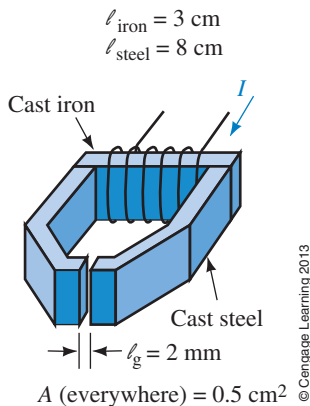

FIGURE 12-51
21. For the circuit of Figure 12-51, $\Phi = 30 \mu\text{Wb}$ and $N = 2000$ turns. Neglecting fringing, find current I .